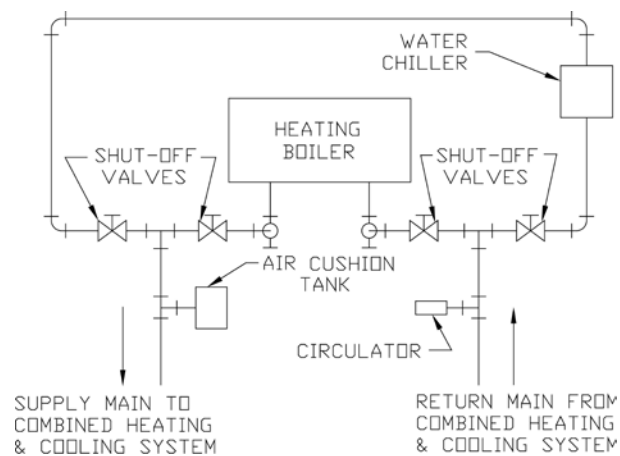

Figure 20: Recommended Piping for Combination Heating & Cooling (Refrigeration) System
1. If boiler is used in connection with refrigeration systems, boiler must be installed with chilled medium piped in parallel with heating boiler using appropriate valves to prevent chilled medium from entering boiler. See Figure 20. Also, consult I=B=R Installation and Piping Guide No. 250.